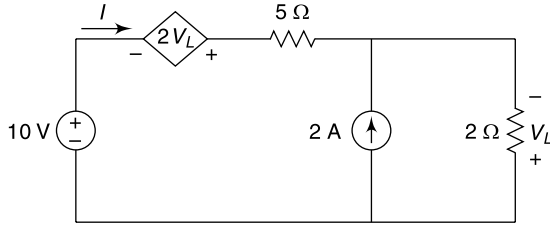

Fig. 14.41
14.65 In the circuit of Fig. 14.41, find (I) using superposition theorem.
Hence magnitude of I is 0.18 A and directed opposite to the direction shown in the given Figure (Fig. 14.41).